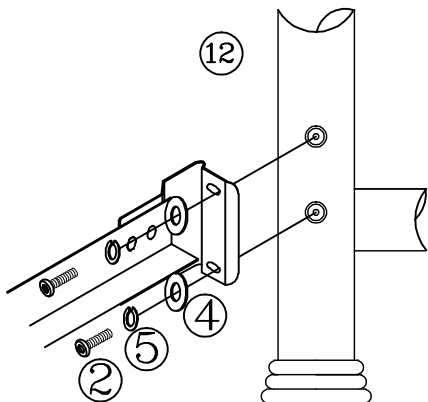

FIGURE 3
- Position footboard panel (12) and align holes in the post with holes in the frame bracket. (SEE FIGURE 3)
- Place a lock washer (5) and flat metal washer (4) over on each screw (2). Insert through bracket and into post. Hand tighten. DO NOT TIGHTEN screws all the way.
- Tighten all screws securely using the Allen wrench (7).